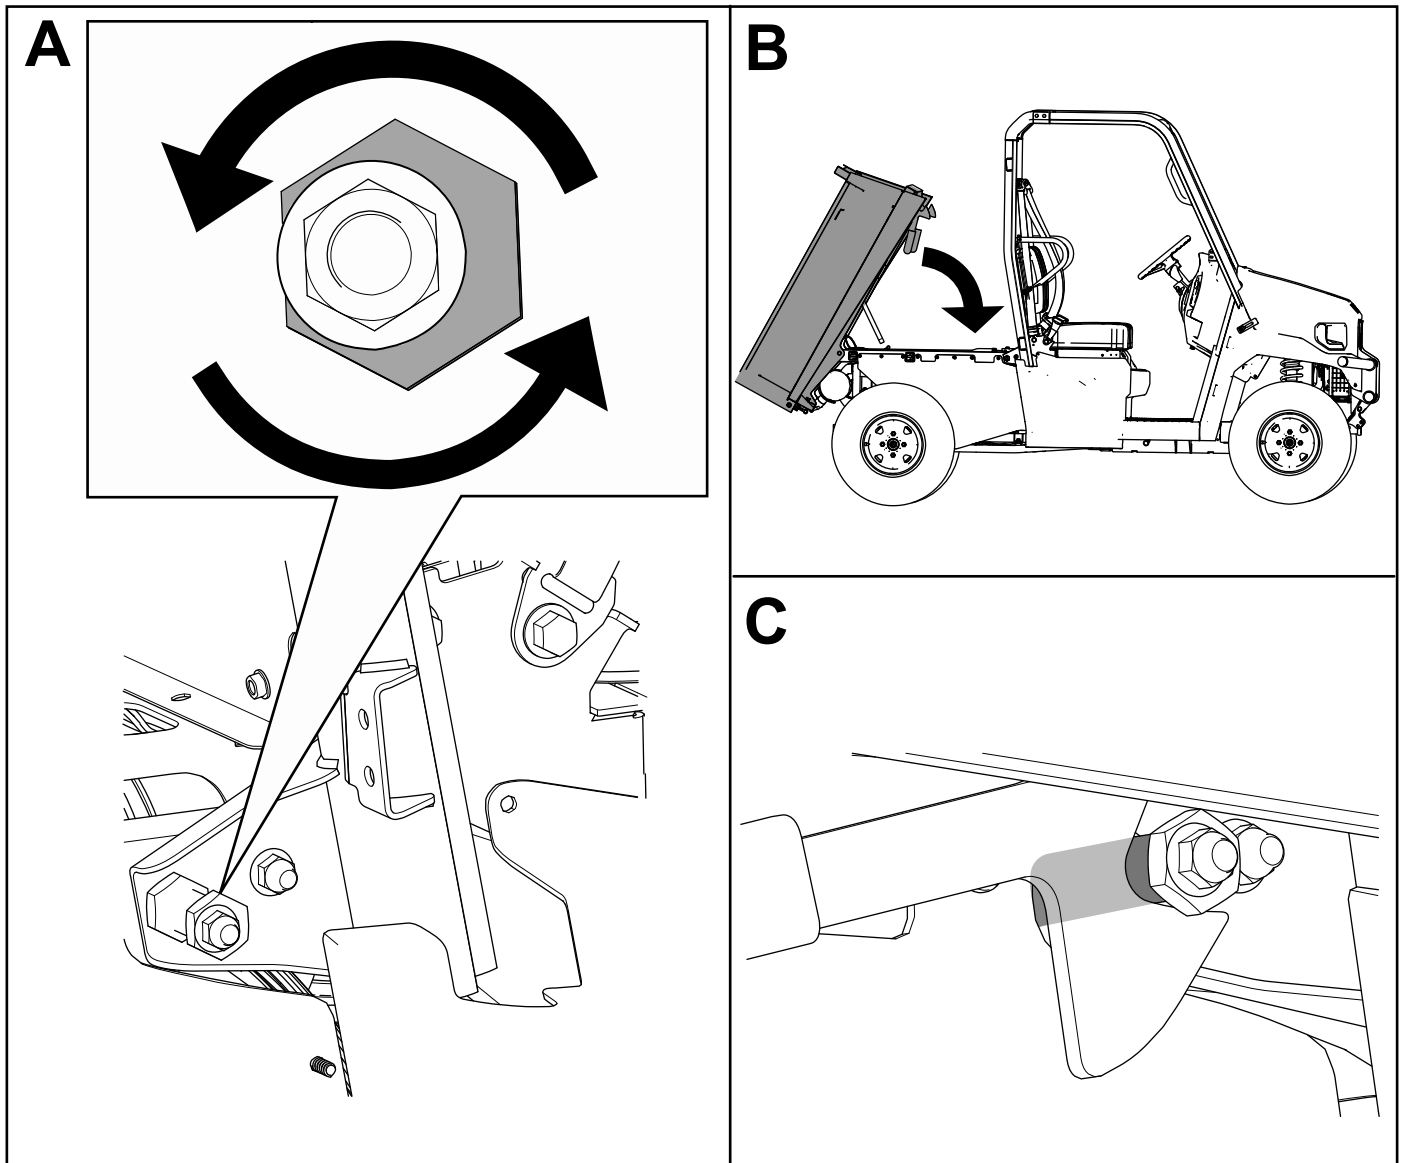

Figure 32
20. Adjust the alignment nut for the cargo bed latch until you close the gap and the cargo bed latches securely (Figure 32).